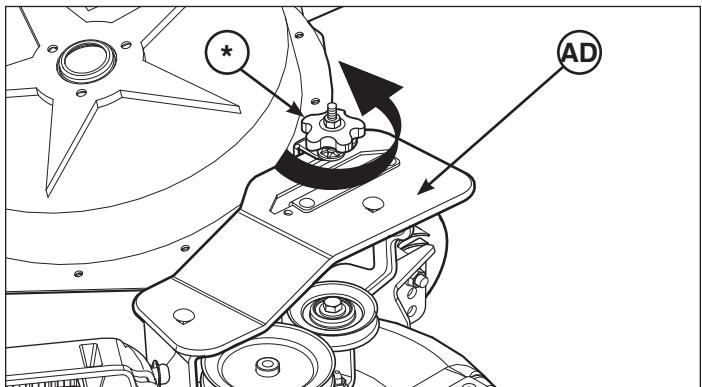

Figure 36
6. Loosen knob (*, Figure 36) on turbo belt cover (AD).